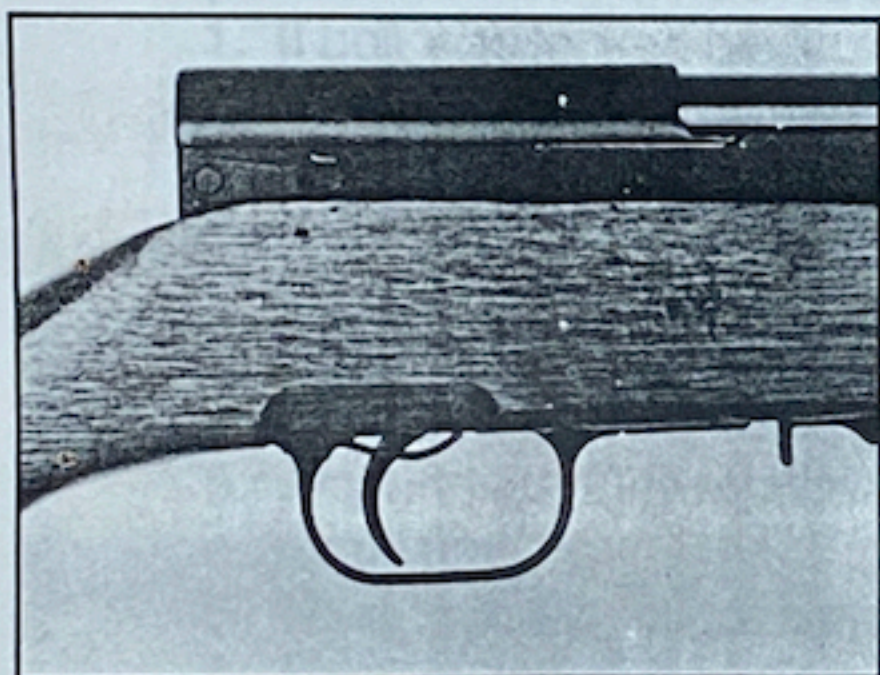

Figure 3
1. Flip the safety to the "ON" position. (Figure 3)